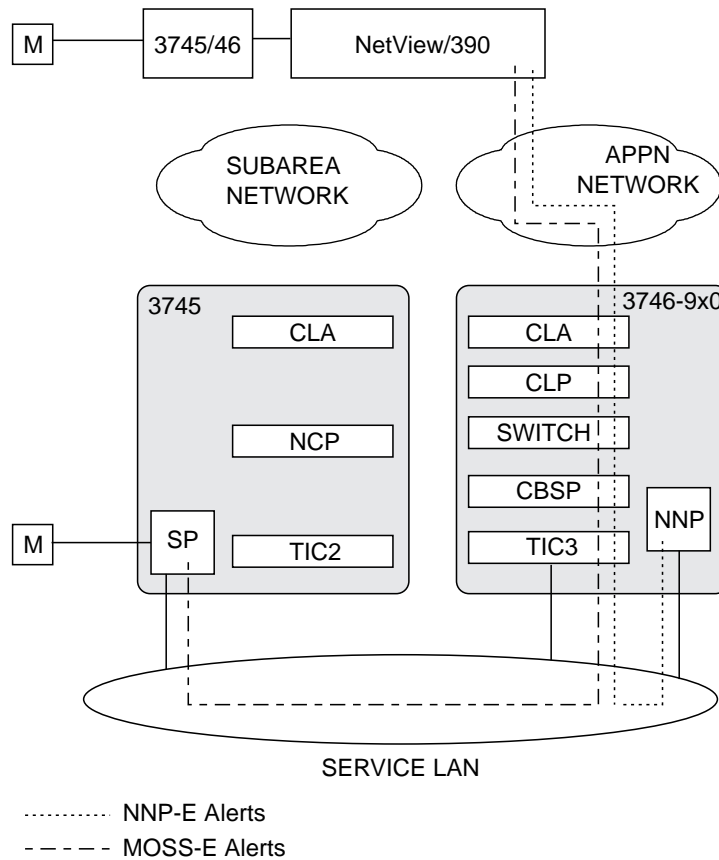

Figure 29-16. NetView Alert Paths over APPN
Figure 29-16 on page 29-26 shows the paths for reporting network node processor and MOSS-E alerts to NetView over an APPN network.
The network node processor reports the network alerts to NetView via the APPN/HPR network. The network alerts flow over from the NNP into the 3746 via the service LAN TIC3, and then over an APPN connection out of the 3746 to NetView (see Figure 29-16 on page 29-26).
**APPN/HPR Path:** The MOSS-E alerts flow from the service processor to NetView over the same physical path (although using a different session) as the alerts reported by the network node processor. See Figure 29-16 on page 29-26.
This is the MAC address (locally administered address) of the TIC3 on the CBSP (token-ring adapter used as the gateway to the NetView program). See Figure 29-16 on page 29-26.
This is the MAC address (locally administered address) of the token-ring port used as the gateway to the NetView program (See Figure 29-16 on page 29-26).